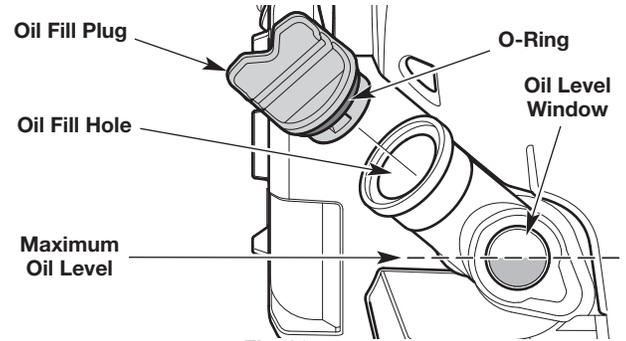

Fig. 30
3. Look into the oil level window; use a flashlight if necessary. **The oil level should fill the window approximately halfway** (Fig. 30). If the oil level is too low, add oil. Refer to *Adding Oil*.
1. Clean the area around the oil fill plug (Fig. 30) to prevent debris from entering the oil fill hole.
3. Add oil to the oil fill hole until the oil level is approximately halfway up the oil level window (Fig. 30).
5. Make sure the O-ring is in place on the oil fill plug (Fig. 30).
7. Make sure the O-ring is in place on the oil fill plug (Fig. 30).